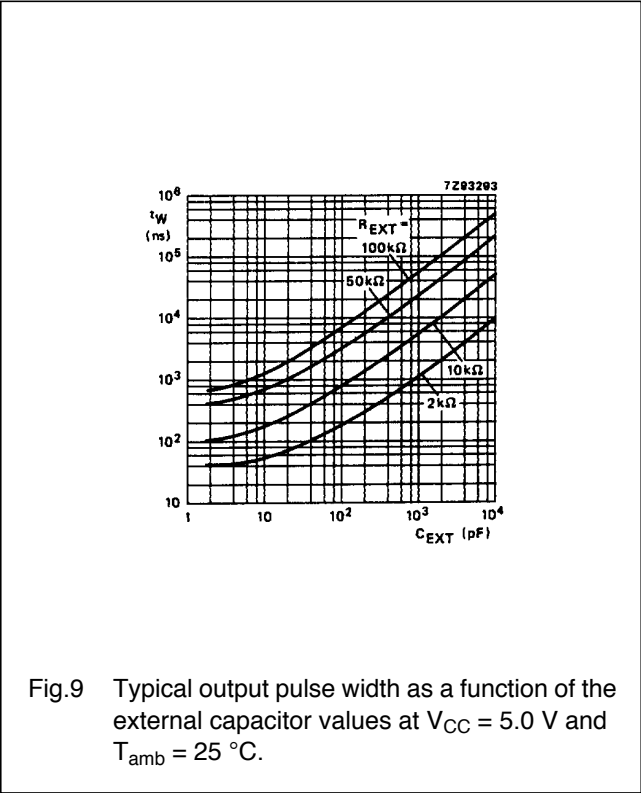

Fig.9 Typical output pulse width as a function of the
1. For other  $R_{EXT}$  and  $C_{EXT}$  combinations see Fig.9.